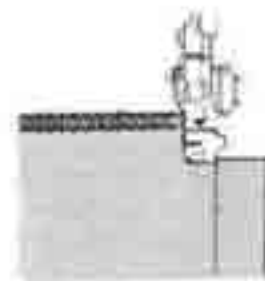

Fig. 99
5. Rotate the workpiece and lower the sewing foot 21 so that the upper blade 18 lies in a line with the cutting edge (Fig. 99).